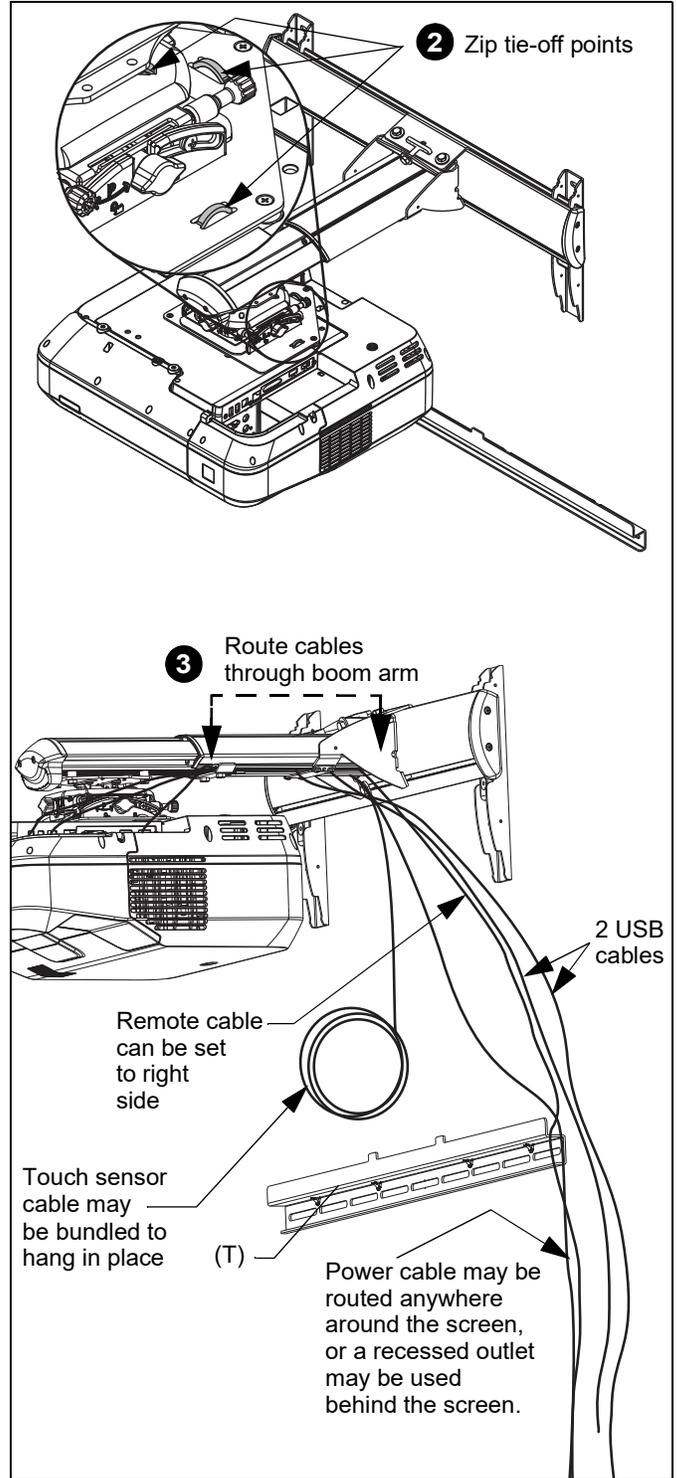

Figure 13
2. Use zip tie off points near the projector interface and on projector mount. (See Figure 13)
3. Route cables through boom arm. (See Figure 13)
4. The control pad cables (2 USB and 1 remote cable) should be laid on top of screen mounting bracket so that they can be run down the side of the screen to the control pad. (See Figure 13)